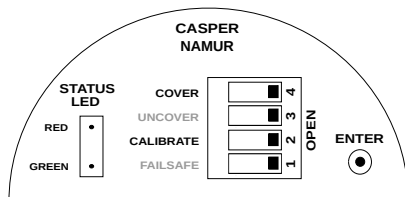

Figure 19: Saving Calibration
- Set the CALIBRATE and COVER switch back to OPEN position as shown in Figure 19.
- Open the housing cover and set the CALIBRATE and COVER switch back to OPEN position as shown in Figure 19.